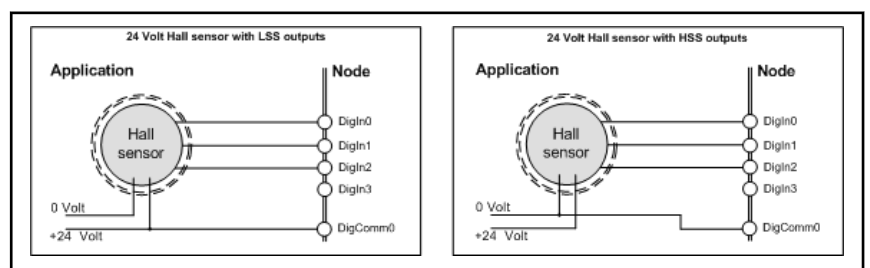

Fig. 8-11: 24 Volt Hall sensor connection
- 24 Volt Hall sensors can be connected to the digital inputs, use the digital inputs DigIn0, DigIn1 and DigIn2 for the first axis, and use DigIn4, DigIn5 and DigIn6 for the second axis. See fig. 8-11 "24 Volt Hall sensor connection" on page 75 for the connection of a Hall sensor with either high side switched or low side switched outputs.